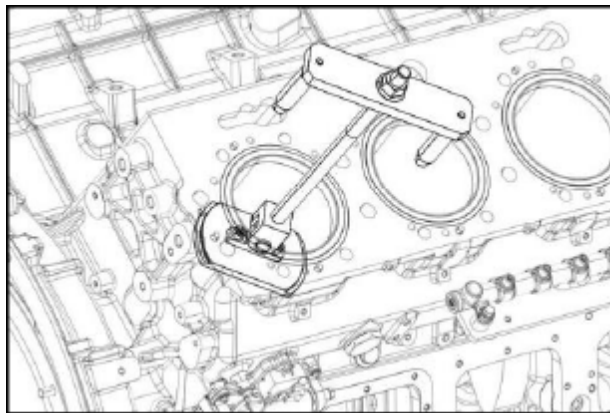

Figure 81.
2. Install the extraction tool (Figure 81).